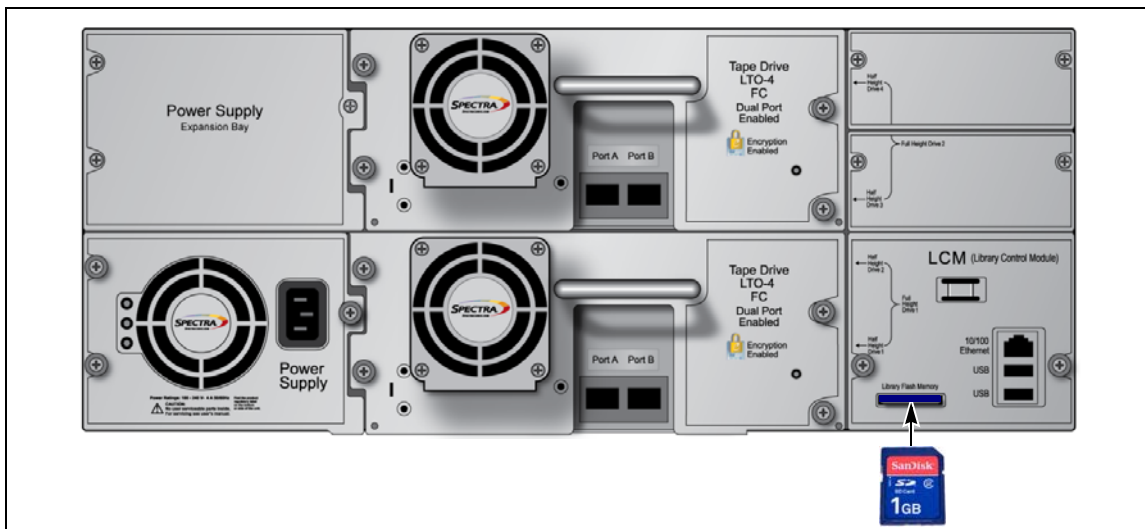

Figure 2-24 Flash card orientation.
1. Access the back of the library (see Figure 2-24).
1. Insert the USB device with the saved configuration into one of the USB ports in the back of the library (see Figure 2-24).